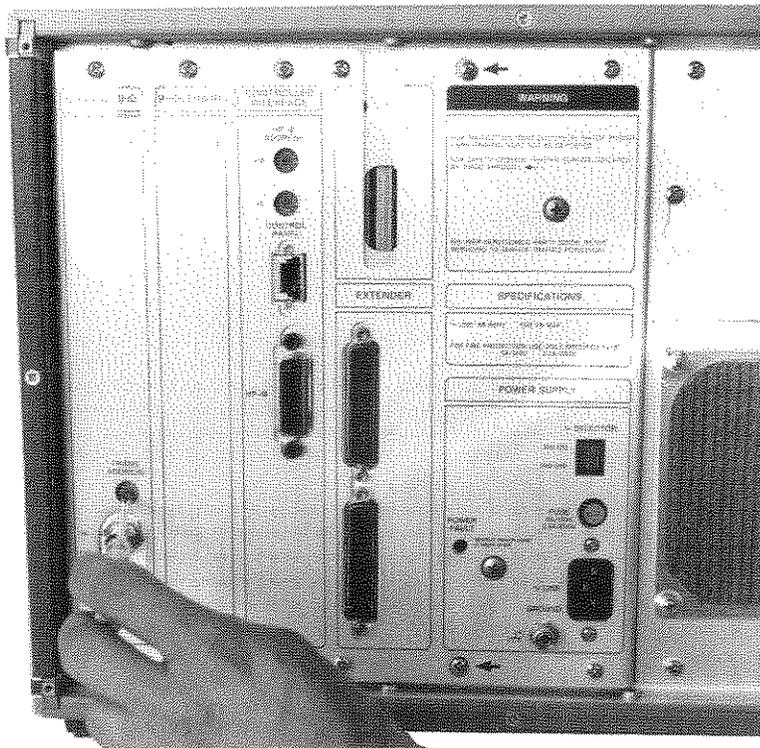

Figure 7. Setting the Frame Address.
Refer to Figure 7 for setting the frame address.
The HP-IB ADDRESS (X10 and X1) rotary switches are 10-position switches like the frame address switch of Figure 7. Set the 10's digit and 1's digit by the same procedure shown in Figure 7. If a number (NN) larger than 30 is set, the resulting address will be NN MODULO 30. For example, if 57 is set, the address is 57 MODULO 30 = 27; if 69 is set, the address is 69 MODULO 30 = 09 which is the address the HP 3235 is shipped with.